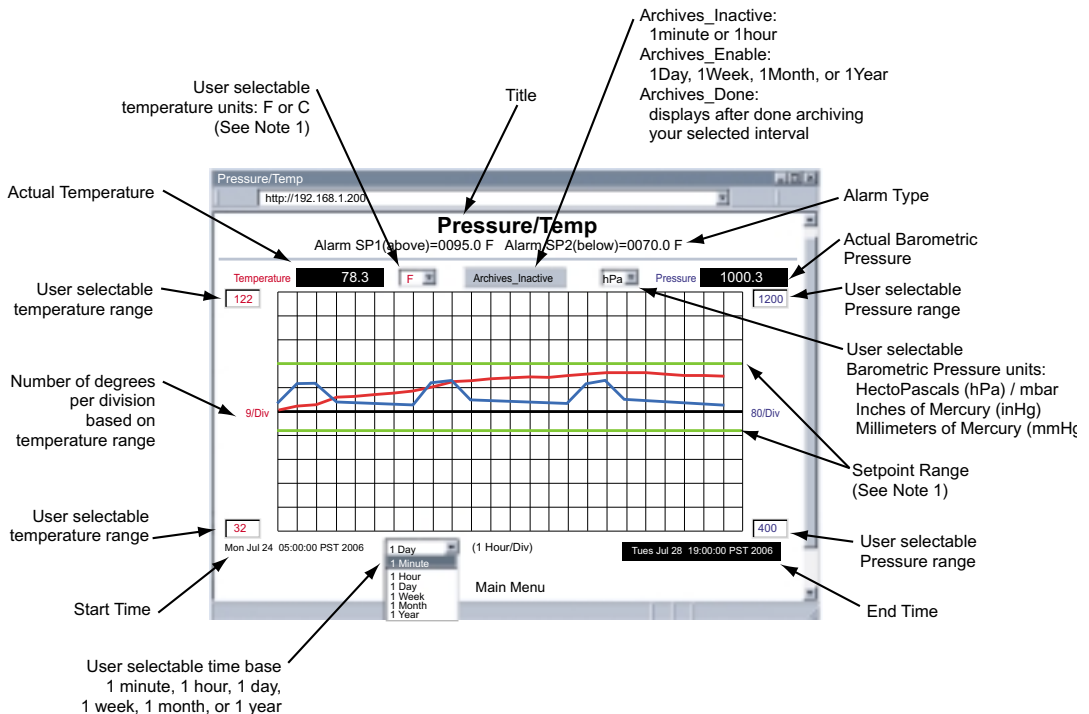

Figure 4.8 Adjustable Chart
- Click on [Chart], the following page (**Figure 4.8**) should appear. The Java™ Applet graph displays Temperature and Barometric Pressure and can be charted across the full span (-40 to 123°C) or within any narrow range (such as 20-30°C). The time-base can display one minute, one hour, one day, one week, one month or one year.
This means that a pre-recorded Flash Card is installed, and by activating the chart the archived data can be viewed (Refer to **Figure 4.8**). The chart has the following selections:
In other words, they are the last specified selection e.g. 1 Day means the last day of the recorded data. Having done the selection, the “*Archives_Enable*” button must be clicked, which will then change to “*Archives_Done*” and the data will be retrieved accordingly. Also, the corresponding Start and End dates will reflect the respective time duration e.g. refer to **Figure 4.8** which is the last 1 Day, the dates are: